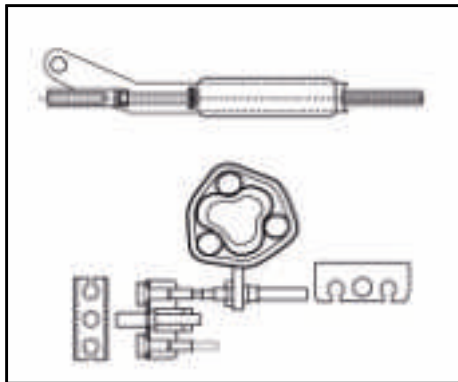

FIG 9.
9. Ensure the balance bar (compensation) is being pulled evenly. This bar (double on tandem axles) should always be paralleled with the axle tube when pulled. Adjust M8 lock and ball nuts, if necessary, to achieve correct parallel position (Fig. 9)
12. Adjust the two locking nuts, forward of the spring cylinder (Fig. 9) (on some chassis a single Nyloc nut is used) to give 1mm of clearance on the spring cylinder. This cylinder (the energy store for the handbrake operation) must be able to rotate only, not slide on the brake rod. (See Fig. 9) If the overrun assembly is fitted with a gas strut handbrake then no